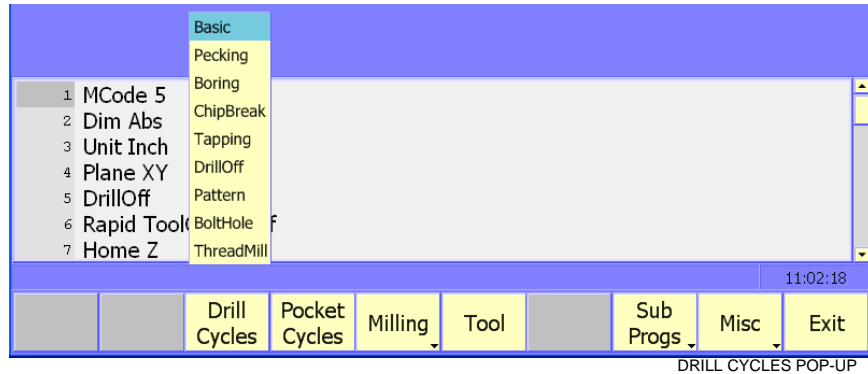

Figure 4-1, Drill Cycles (F3) Pop-up Menu
1. In Edit mode, press **Drill Cycles (F3)** to display the Drill Cycles pop-up menu. Refer to **Figure 4-1**.
1. In Edit mode, press **Drill Cycles (F3)** to display the Drill Cycles pop-up menu. Refer to **Figure 4-1, Drill Cycles (F3) Pop-up Menu**.
5. After programming the last drill move, press **Drill Cycles (F3)** to display the Drill Cycles pop-up menu. Refer to **Figure 4-1, Drill Cycles (F3) Pop-up Menu**.
1. In Edit Mode, press **Drill Cycles (F3)** to display the Drill Cycles pop-up menu. Refer to **Figure 4-1, Drill Cycles (F3) Pop-up Menu**.
5. To program a **DrillOff** block, press **Drill Cycles (F3)** to display the Drill Cycles pop-up menu. Refer to **Figure 4-1, Drill Cycles (F3) Pop-up Menu**.